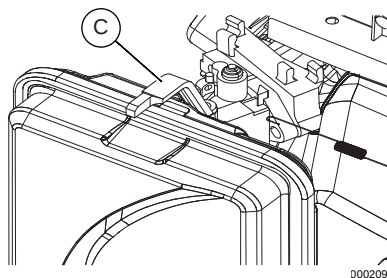

Figure 3-4. Choke Position
6. See Figure 3-4. Slide engine choke (C) to Full Choke position (left).
5. See Figure 3-4. Move engine choke lever outward to Full Choke.
5. See Figure 3-4. (49 State Model only) Move engine choke lever to the RUN position (choke lever to the right).